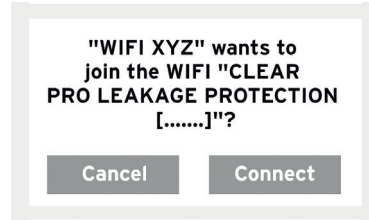

Fig. 9.18
- / when the connection is made, the **CLEAR PRO APP** would like to be connected to the WLAN of the retrofit leakage protection **CLEAR PRO CONEL** MultiControl. select „Connect“ (Fig. 9.18)